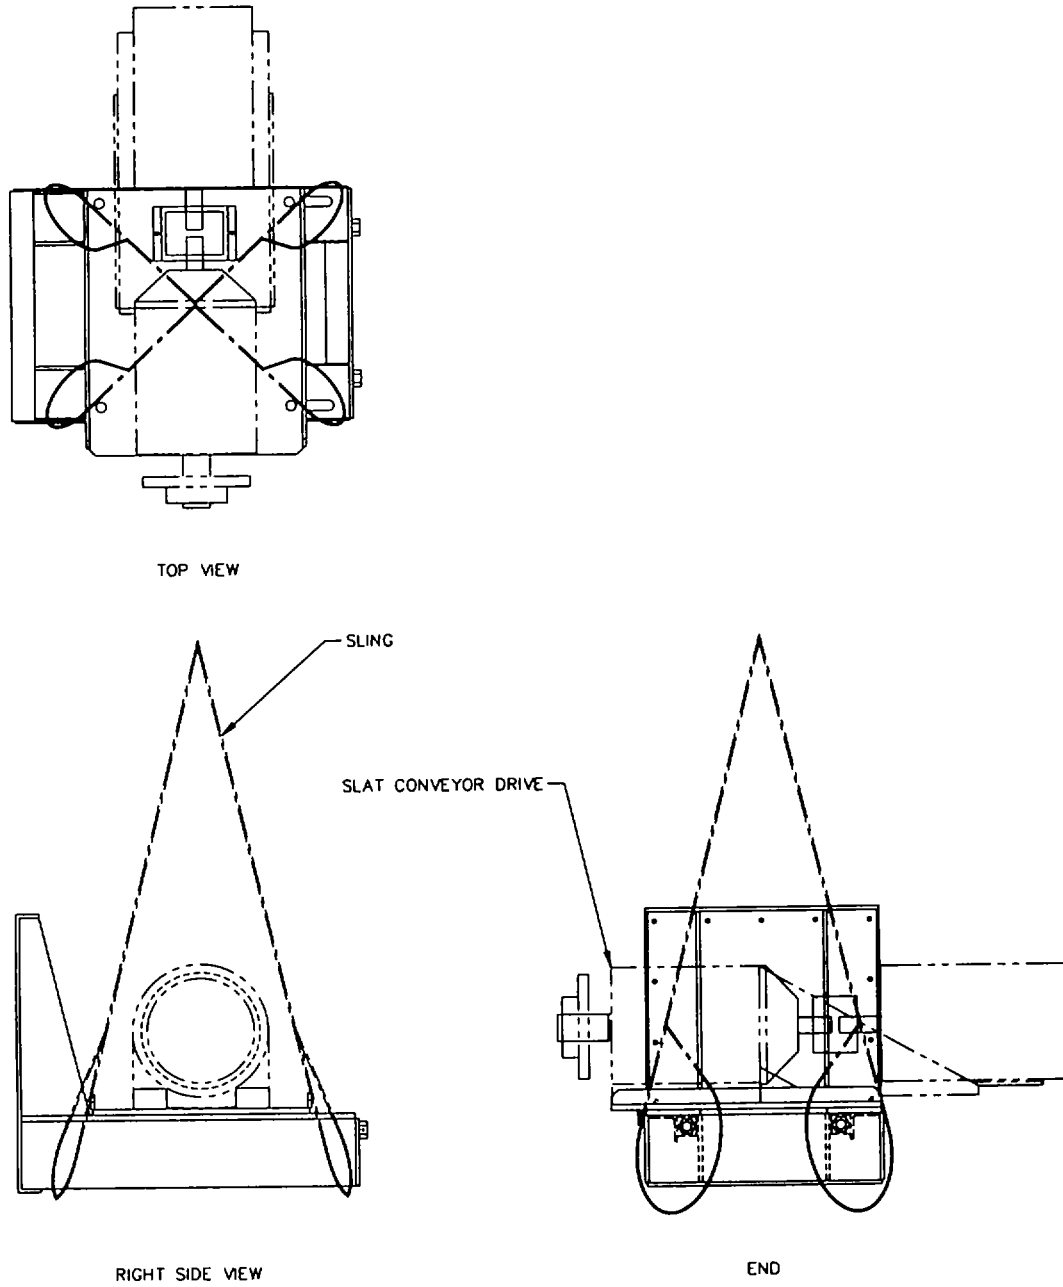

Figure 3-16. Drive Slings
9. Support the drive assembly as shown in Figure 3-16. Remove the fasteners holding the drive assembly to the slat conveyor. Lift the drive assembly away from the conveyor and lower it to a bench or floor. Disconnect the supports.
5. Lift the drive assembly (see Figure 3-16) up to the conveyor and bolt it in place. Torque bolts